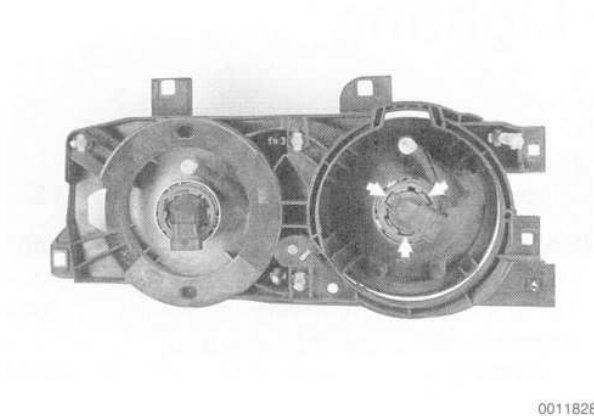

Fig. 2. To release bulb from headlight assembly, rotate bulb counter-clockwise to disengage retaining tabs (**arrows**) and remove.
3. Grasp rear of bulb socket (harness connector) and turn counterclockwise 90°. Pull bulb out of headlight assembly. See Fig. 2.